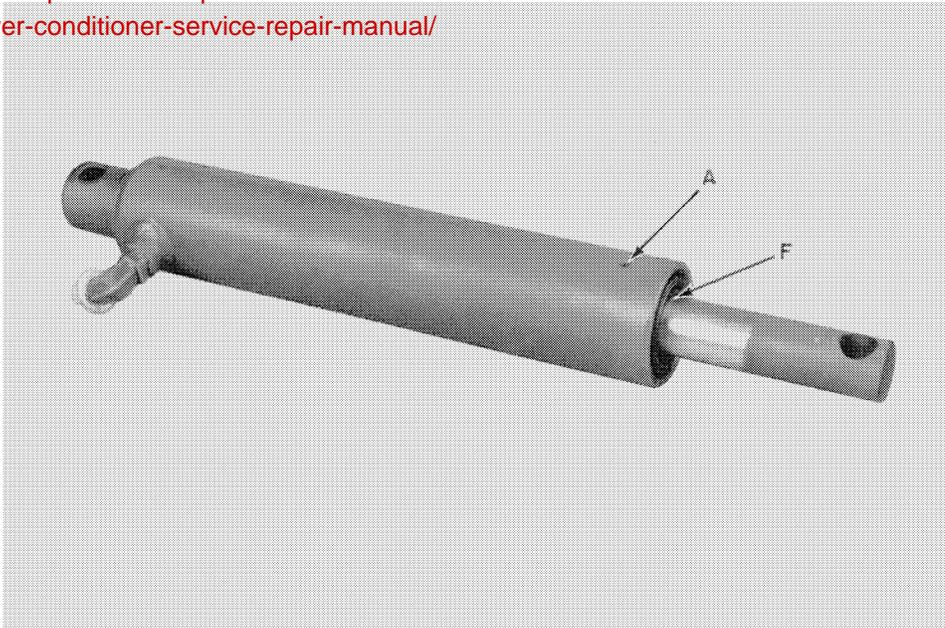
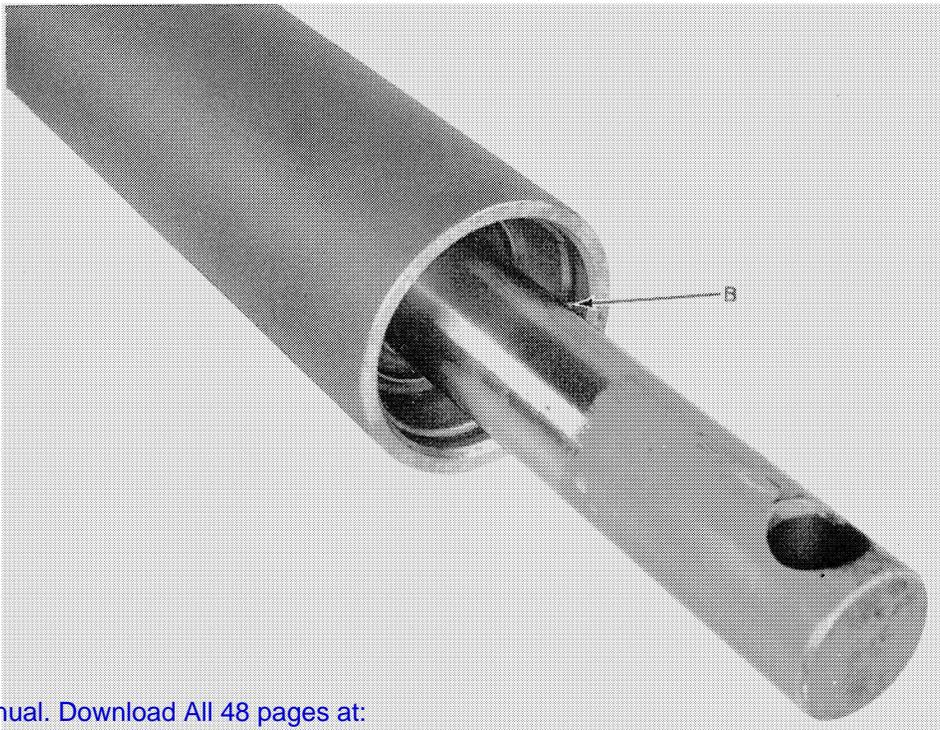

FIGURE 42
FIGURE 43
1. Remove set screw, A, Figure 42.
2. Tap the cylinder head, F, Figure 42, into cylinder far enough to remove retaining ring, B, Figure 43.